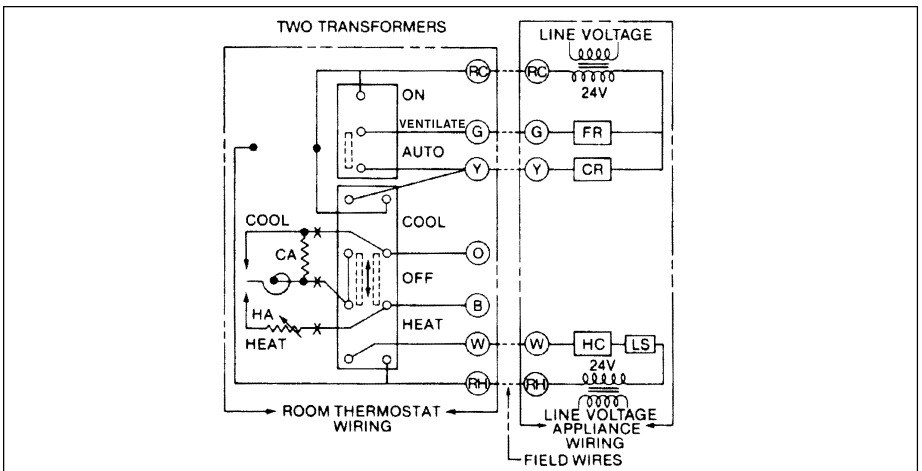

Figure 5. Sub-base SB-6A-5ABO Two Transformers
10. Check low-voltage (24V) circuit(s) to appliance(s) and make appropriate wiring connections (see Figure 5,6,7, or 8). Also refer to wiring diagram on appliance(s).